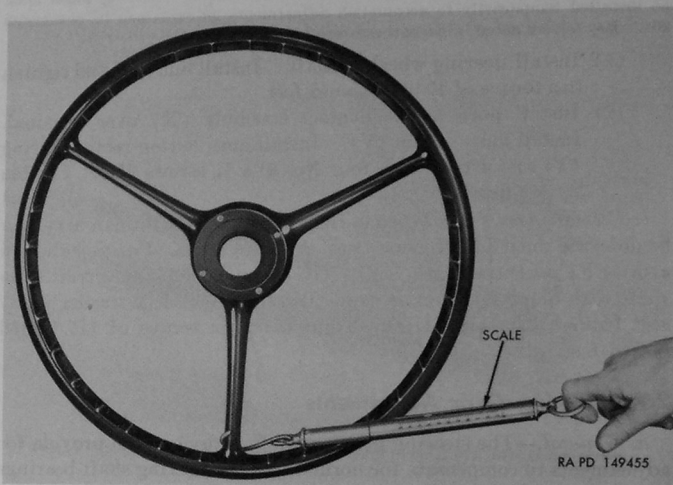

Figure 201. Use of scale 41-S-503 on steering wheel to check pull.
- (2) Turn steering wheel gently until mechanism has reached one extreme. Turn wheel back one full turn. With scale 41-S-503 on spoke of steering wheel (fig. 201), measure pull required to keep wheel moving. Pull on scale should be made at right angle to wheel spoke.
- (3) If pull is not within the limits of  $1\frac{1}{2}$  to 2 pounds, shaft bearings must be adjusted.